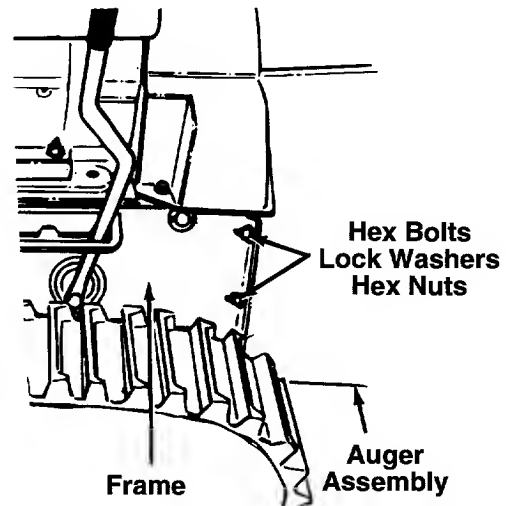

FIGURE 19.
- Remove the six hex bolts, lock washers and hex nuts which attach the auger housing assembly to the frame. See figure 19.